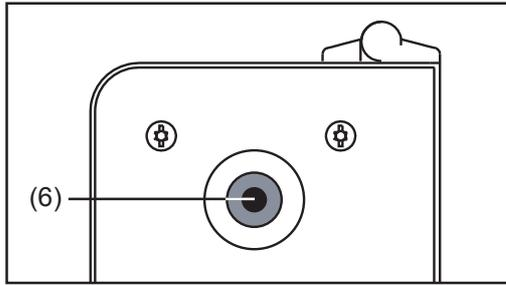
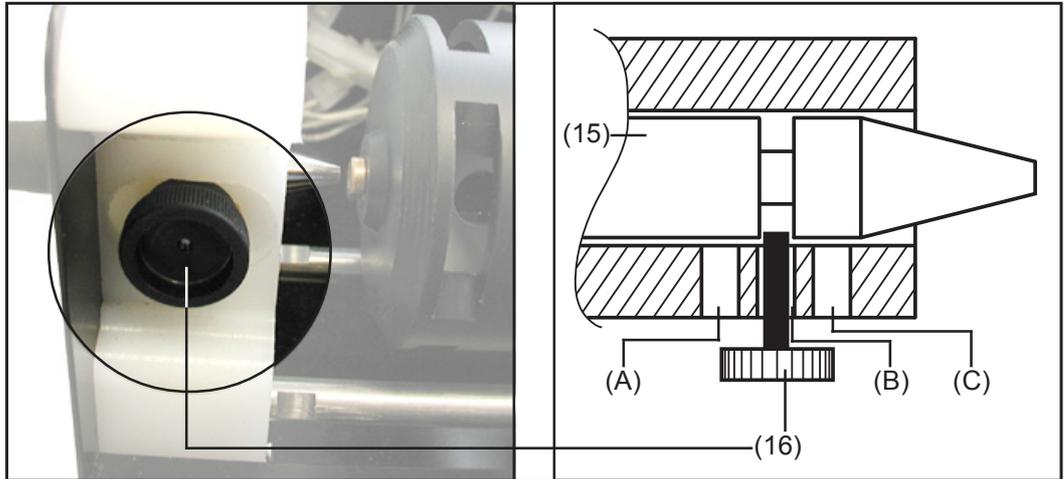

Fig.14 Push the wire feed hose in
Fig.15 Fix the wire feed hose in place
- Push wire feed hose (15) - Fig. 15 - with the wire feed nozzle into the mount (6) - Fig. 14.